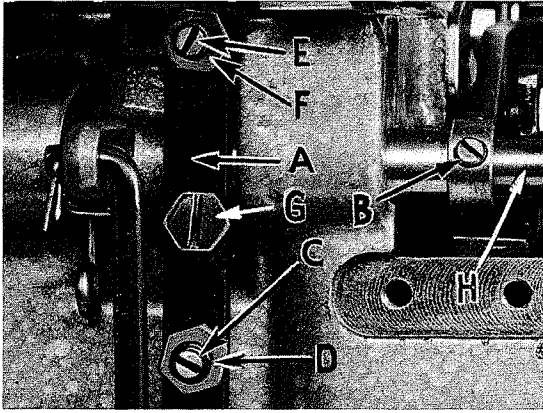

Fig. 16
Assemble the presser foot to presser arm. With needle in high position, swing presser arm into sewing position and set the presser foot to align needle holes (front and back) and flat on throat plate. The front edge of needle hole in presser foot must be aligned with front edge of needle hole in throat plate. It is also important that the bottom of the presser foot be flat on the throat plate. If necessary, presser foot can be realigned with throat plate slots by shifting the foot lifter lever shaft (H, Fig. 16). To move the shaft, loosen collar screws (B, Fig. 16) and clamp screw (G) and then shift the foot lifter lever shaft to the left or right as required. Retighten collar screws and clamp screws.
The foot lifter lever arm (A, Fig. 16) and the collar (B) secure the shaft. Be sure the presser arm does not bind and rise when presser foot release bushing is unlocked. To center presser foot and stitch tongue with respect to throat plate needle hole, loosen presser foot hinge screw.